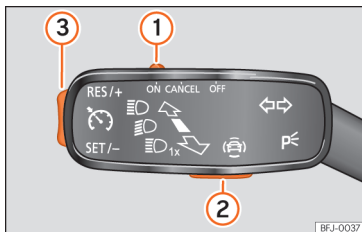

Fig. 255 On the left of the steering column: control and buttons to operate the speed limiter.
»» Fig. 255 (1) of the turn signal lever into position **CANCEL** or the third lever into pressure point **CANCEL** or press button (2) on any lever.